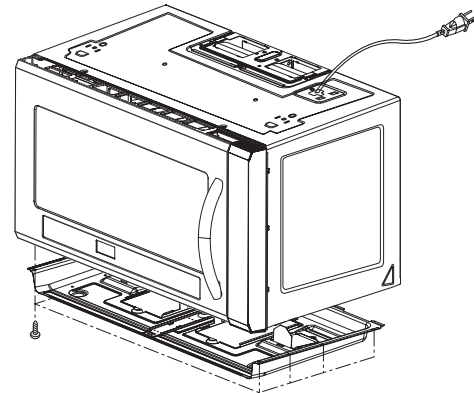
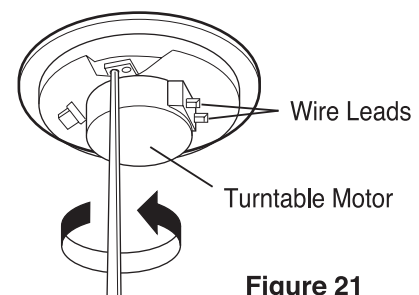

Figure 20
Figure 21
- (3) Remove the base plate by removing 8 screws securing it to the oven cavity. (Figure 20)
- (4) Disconnect the leadwire from the turntable motor terminals.
- (5) Remove the 2 screw securing the turntable motor to the oven cavity assembly. (Figure 21)